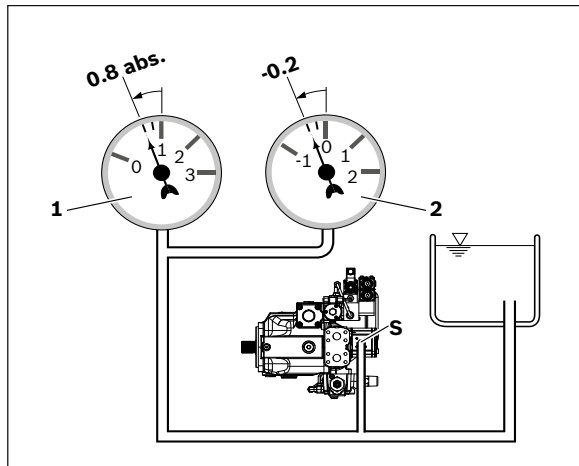

Fig. 7: Suction pressure (version with mounted boost pump)
- ▶ Make sure that a minimum boost pressure of 16 bar absolute (size 40 to 500) or 25 bar absolute (size 750 and 1000) is present at port **E** of the axial piston pump in all installation positions during operation or for a cold start, see Fig. 7. For further pressure values, please refer to the data sheet.